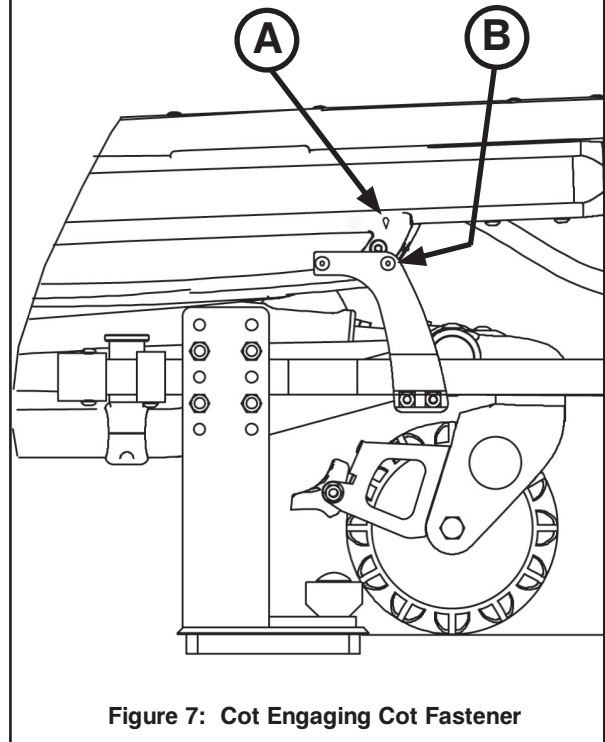

Figure 7: Cot Engaging Cot Fastener
6. Adjust the shut-off bracket along the rail clamp until the “diamond” on the sensor housing is lined up with the pop rivet head as shown in Figure 7.
**Note:** Align the ‘diamond’ (A) on the sensor housing cover with the pop rivet head (B) on the in-ambulance shut-off.